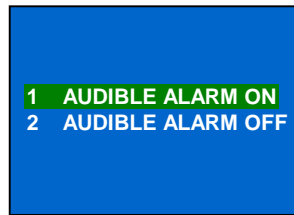

Figure 7-18 ALARM CONTROL screen
Select Main Menu -> 3 CONTROL -> 2 ALARM CONTROL to enter the ALARM CONTROL screen, as shown in Figure 7-18.
1. Enter the ALARM CONTROL screen (see Figure 7-18), and select 'AUDIBLE ALARM ON' or 'AUDIBLE ALARM OFF' to switch on/off the alarm.